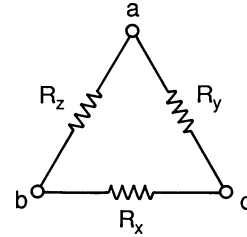

Fig. P-2
Wye-to-Delta (Fig. P-2):
4. The delta circuit, shown in Fig. P-2, has all resistors of the same size (12,000 Ω). Find the value of the resistors in the equivalent wye circuit.
5. In the circuit shown in Fig. P-2, R_x is 20,000 Ω , R_y is 10,000 Ω and R_z is 30,000 Ω . What is the value of R_c in the equivalent wye circuit?